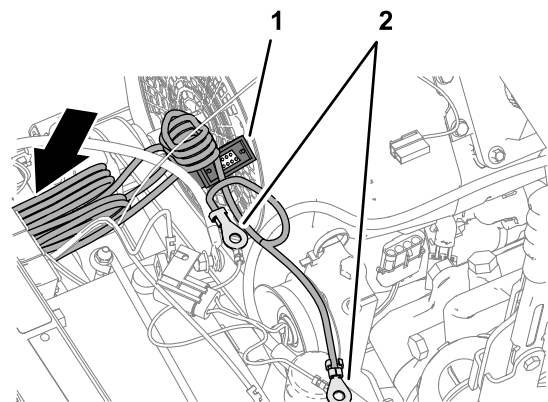

Figure 73
2. Route the ring terminals of the modem power harness labeled BATTERY and GROUND toward the battery (Figure 73).